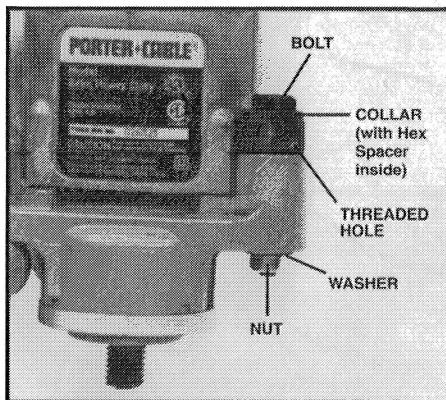

Fig. 2
5. Place flat washer onto bolt and secure with hex nut. Tighten securely. (See Fig. 2)